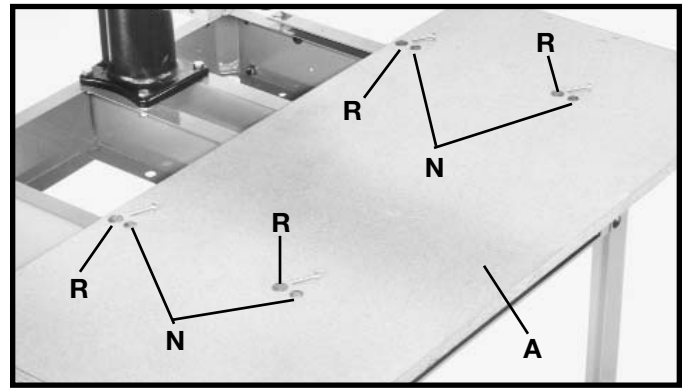
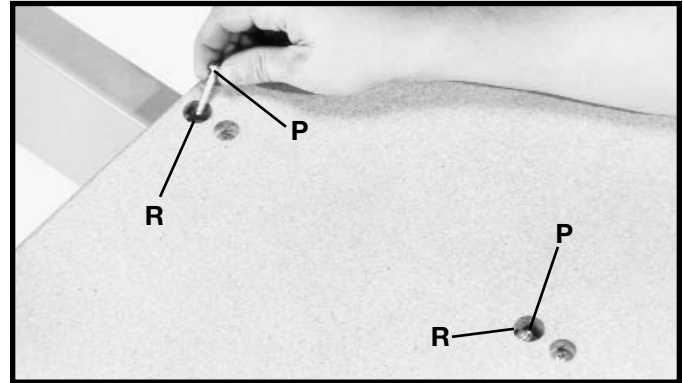

Fig. 21
Fig. 22
6. When both right and left edges of the table board are the same distance from the table supports, tighten four screws located in holes (N) Fig. 21, of front table board (A).
7. Insert four 1/4-20x1-1/4" round head screws (P) Fig. 22, into holes (R) Figs. 21 and 22, of the table board as shown, and tighten each of the screws until each corner of the table board raises approximately 1/8".